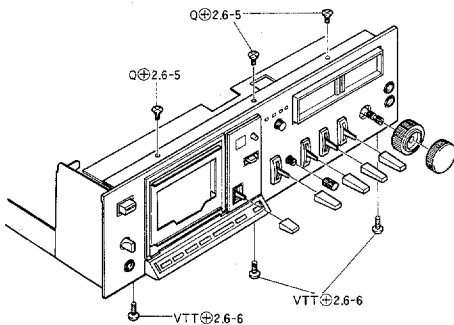

Fig. 3
- 1) Remove the eight knobs and six screws (See Figure 3.)